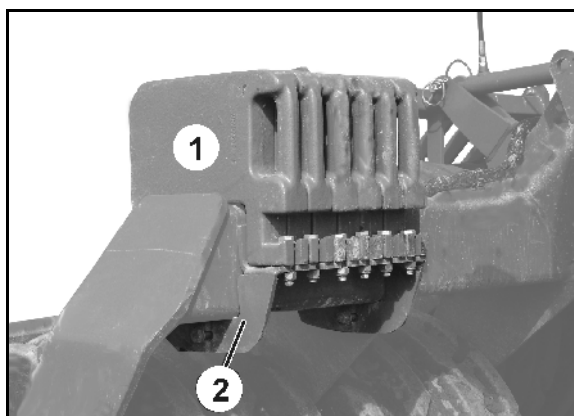

Fig. 28
- Secure the additional weight (Fig. 28/1) and retaining plate (Fig. 28/2) to the chassis tube using two screws for each.